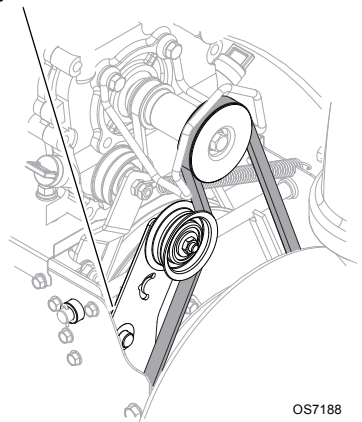

Figure 26
5. With the attachment clutch disengaged, check that the attachment idler arm lightly touches the frame (Figure 26).